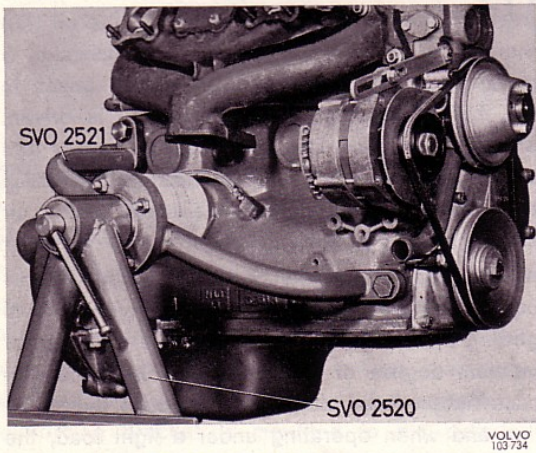

Fig. 20 Engine on stand
1. Place the engine on stand SVO 2520 with fixture SVO 2521 (see Fig. 20). Check that the oil has been drained off.